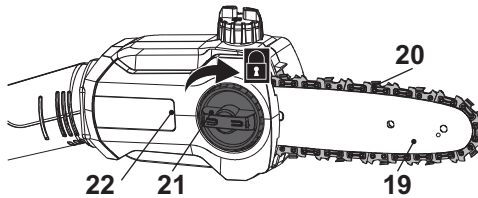

Fig. 10
- Refit the chain saw cover (22) and slightly tighten the locking wheel (21) clockwise (Fig. 10). Do not tighten the locking wheel (21) completely as saw chain tensioning is required first.